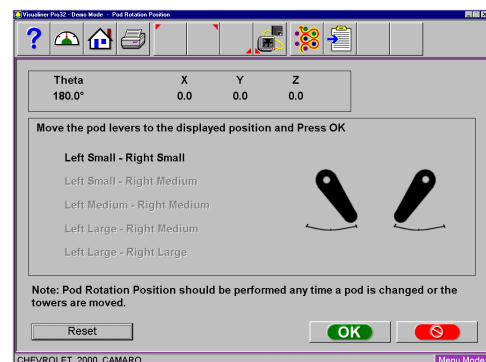

Figure 29
2. Adjust the camera levers to the illustrated position shown on the screen and click on **<OK>**. (Figure 29)